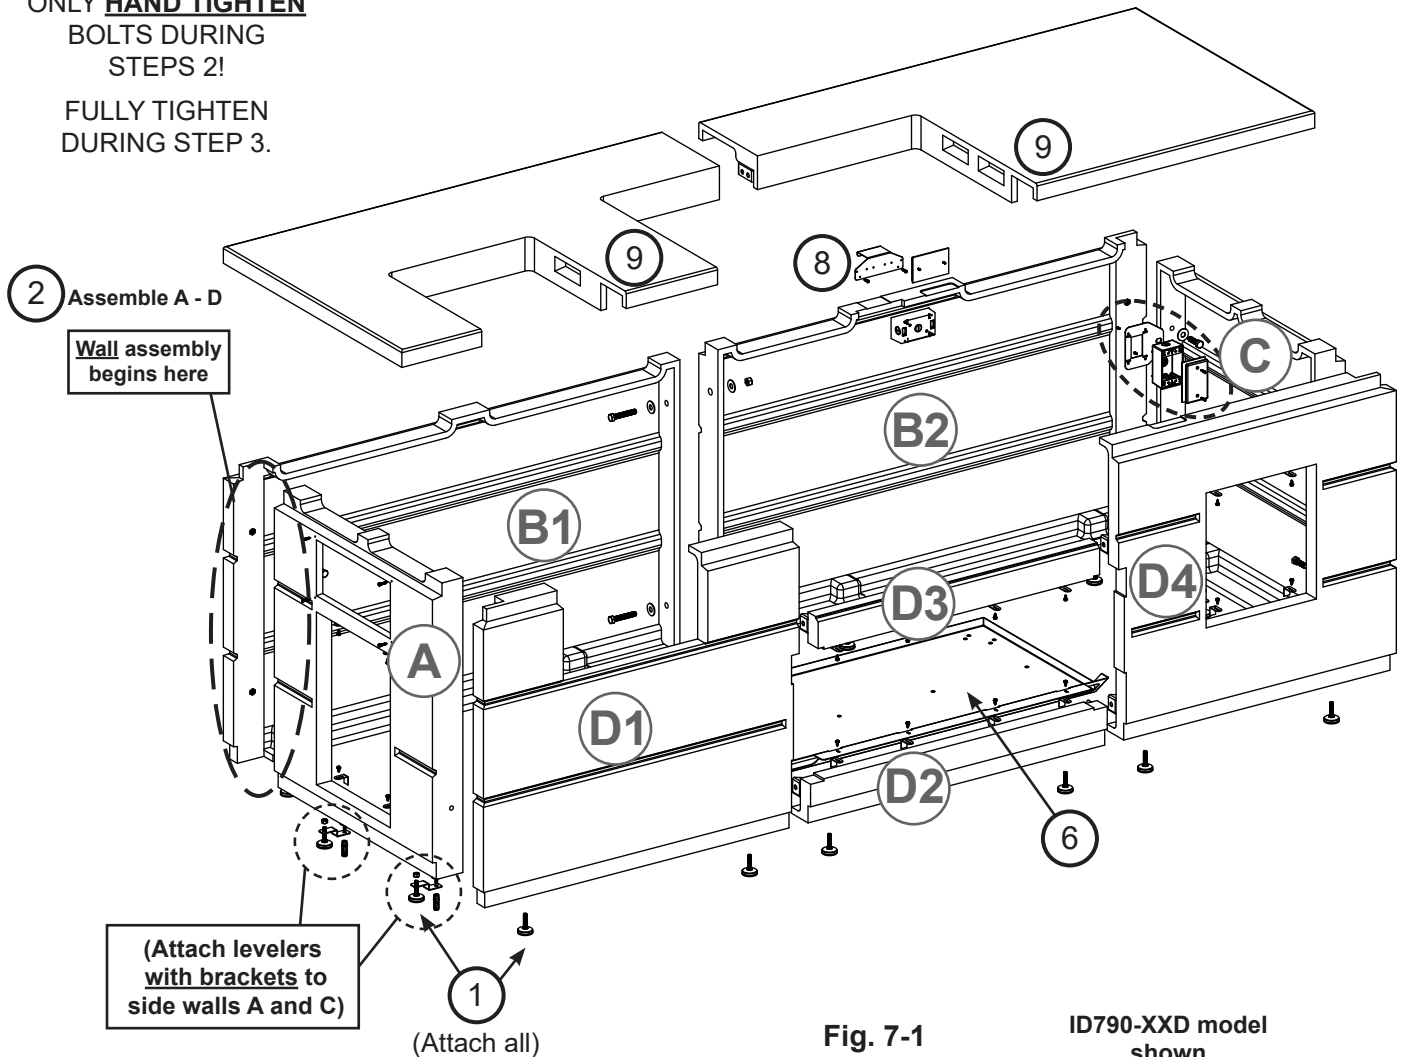

Fig. 7-1
- Fig. 7-1 provides an overall orientation and bolt assembly detail for the island with double drawers.